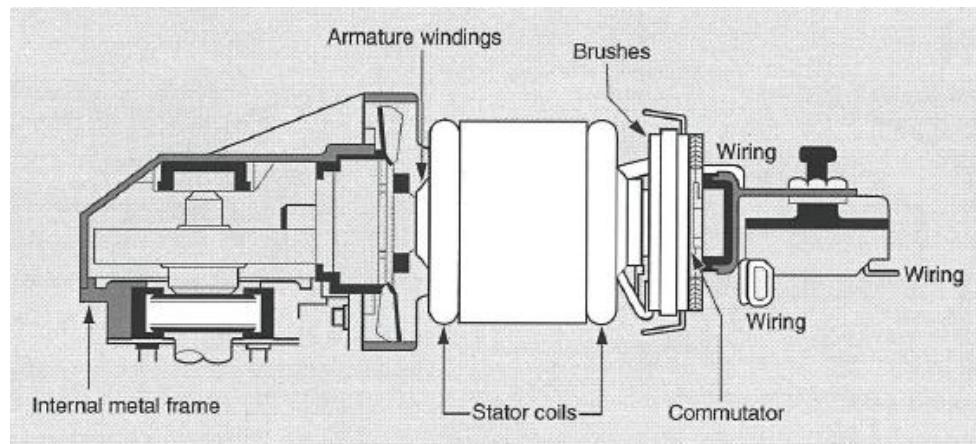

Figure 3.5: Power Tool with Functional Insulation
- 3-27 The ordinary insulation of wires is called *functional insulation*. All electric tools have this insulation, as it is necessary to direct the current for the proper functioning of the tool. In the tool shown in Figure 3.5, functional insulation is used around all current-carrying components—brushes, armature windings, stator coils, commutator, and wiring.